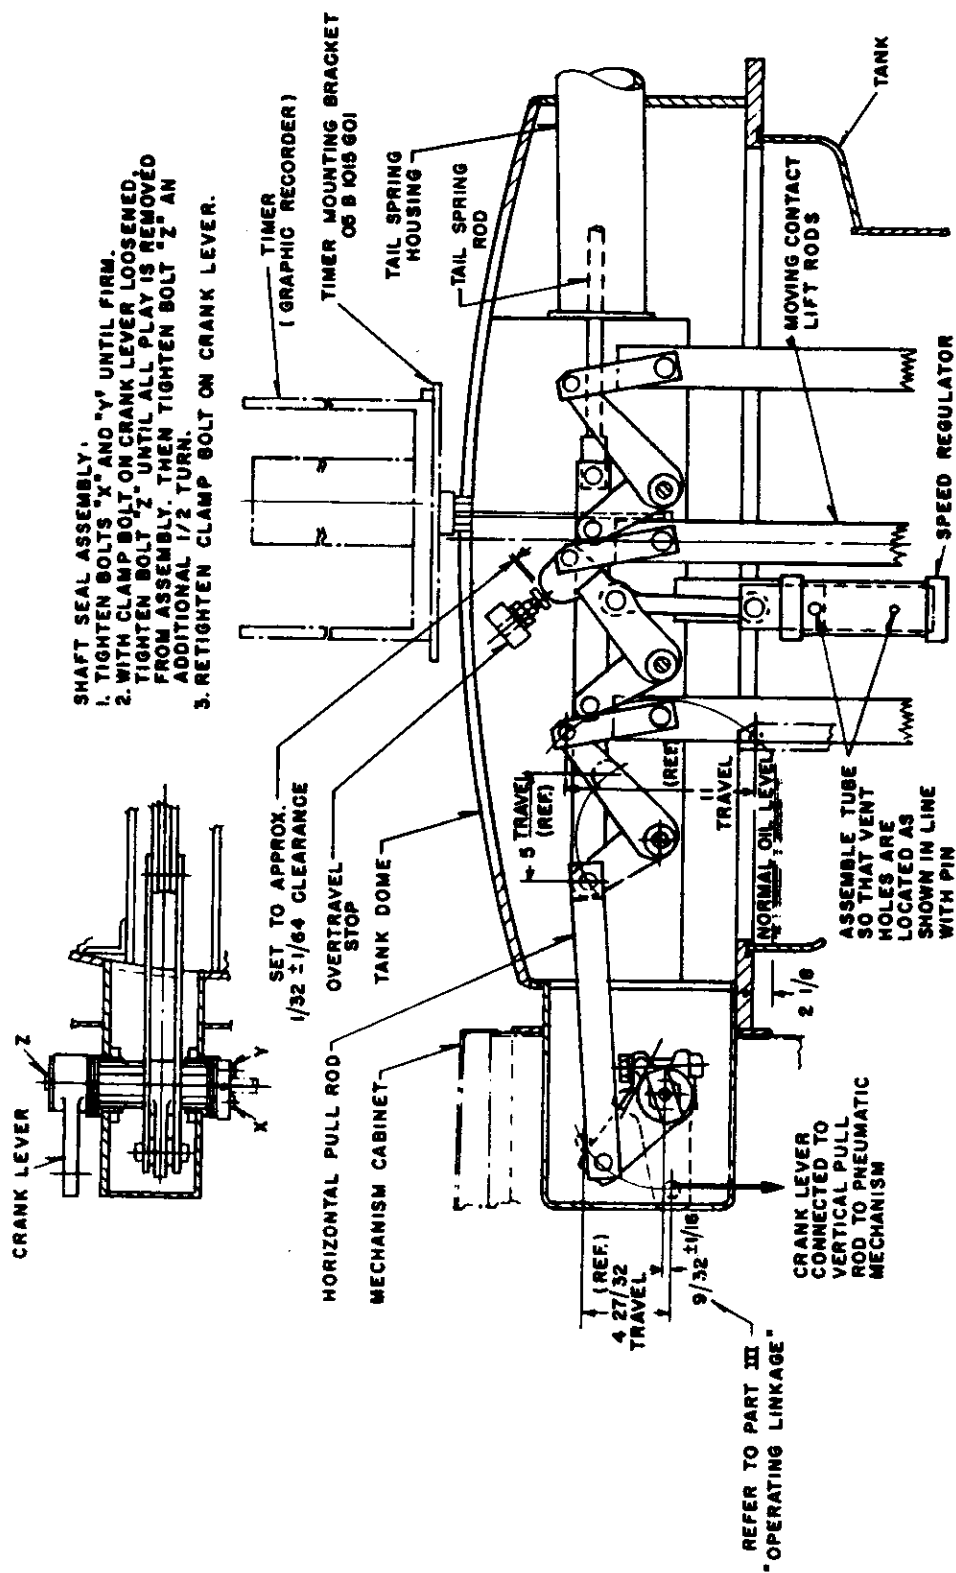

Fig. 4 Pole Unit Linkage and Bell Crank Assembly and Graphic Recorder Mounting
In order to check the breaker timing properly, it is necessary to use a graphic recorder. The instrument most commonly used is the "Cincinnati Timer" made by the Cincinnati Clock and Instrument Co. which may be mounted on the breaker tank top as shown in Fig. 4.
Operating Linkage - Fig. 4
4. Measure contact engagement. This may be checked without lowering the tank by employing the graphic travel recorder connection through the tank top (Ref. Fig. 4) using a .19" dia. rod with .190-32 threads. Close the breaker slowly by hand until the contacts just touch ("Light Out" through terminals) and check the additional travel to close and just latch the mechanism (no over-travel). The difference between these two points represents the effective contact engagement which would be $.5" \pm .06"$ with new contacts. If engagement checks less than .31" the tank should be lowered for a thorough contact inspection.
3. Check clearance of the lever system overtravel stop with the breaker closed and just latched (no overtravel). Ref. Fig. 4. Note that a clearance greater than .032" would affect the apparent contact erosion as checked in Step 2.